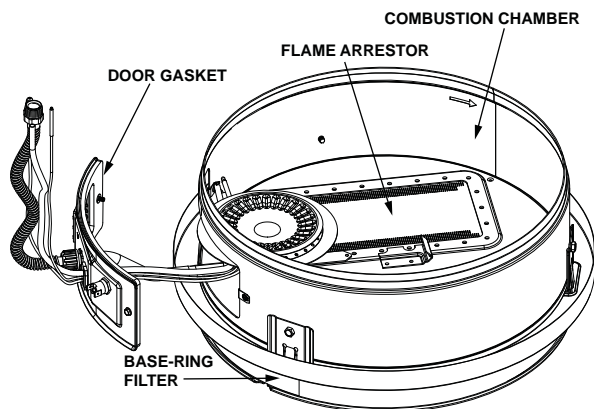

FIGURE 28.
1. At least annually, check the base-ring filter (Figure 28) for any dust or debris that may have accumulated on the filter screen. **NOTE:** If the water heater is located in an area that is subjected to lint and dirt, it may be necessary to check the base-ring filter more frequently.
2. Use a vacuum cleaner/shop vac to remove all loose debris in the combustion chamber (Figure 28). Use compressed air to clear any dust or debris that may have accumulated in the flame-arrestor.
1. Check the door gasket for damage or imbedded debris prior to installation (Figure 28).
4. Inspect the door gasket and make sure there is no fiberglass insulation between the gasket and the combustion chamber (Figure 28).